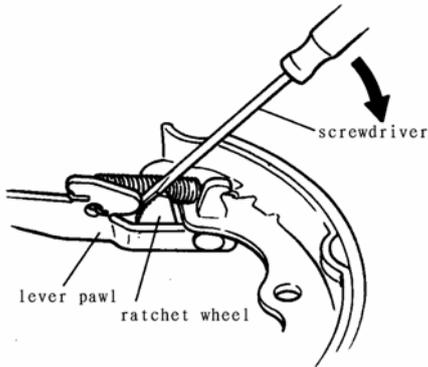
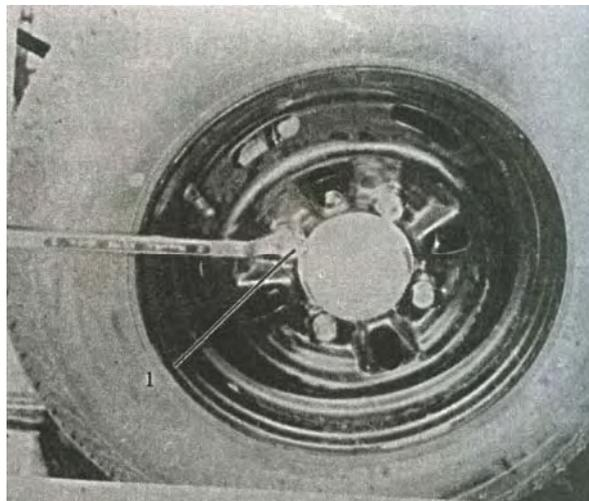

FIG.16-52
FIG.16-54 1-Wheel nut
- (4) Adjust the clearance between brake shoe and brake drum to maximum before installing brake drum. Put screwdriver between plate and ratchet wheel and depress ratchet wheel. (FIG.16-52, 16-53)
- (5) Install brake drum after cleaning oil and dust on inner surface of brake shoe and brake drum.
- (6) Tighten wheel nut to specified torque. (FIG.16-54)